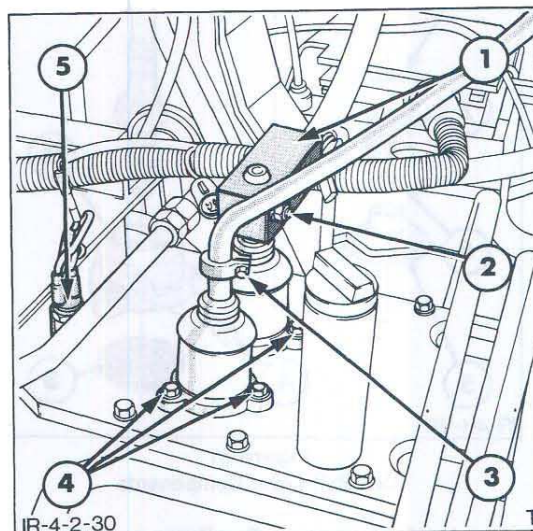

Figure 30
5. Remove the three gearshift lever spigot support retaining bolts from the transmission top cover, Figure 30.